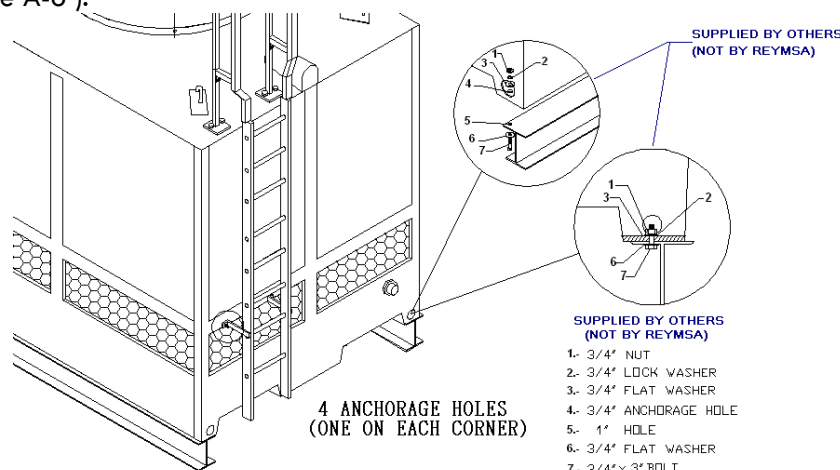

Figure A-6: Installation - Typical Anchorage for a Single Fan Tower
- E. Place the Tower Section (Basin and Body) on top of the base structure, making sure that the anchorage holes on the bottom of the tower are aligned with the perforations on the base. Then proceed to bolt it down and secure it with stainless steel nut and bolt sets (*supplied by others*, see Figure A-6).